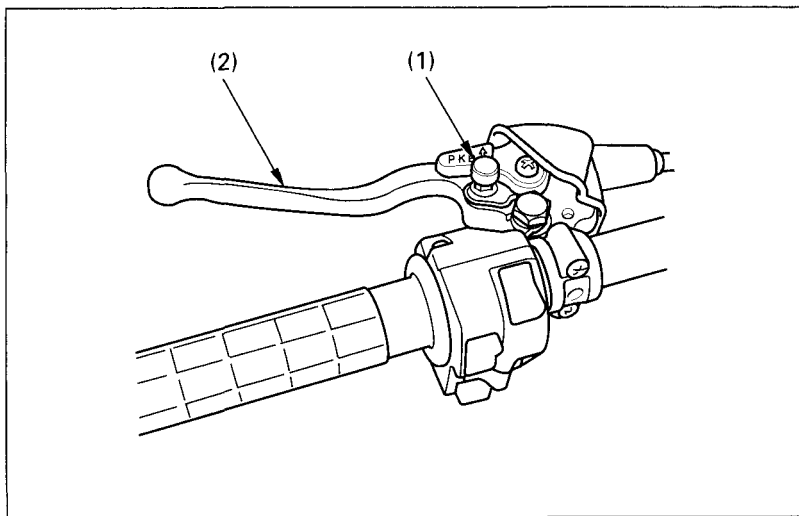

Fig. 2-12      (1) Reverse selector knob      (2) Rear brake lever
The reverse selector knob (Fig. 2-12) (1) is on the rear brake lever.